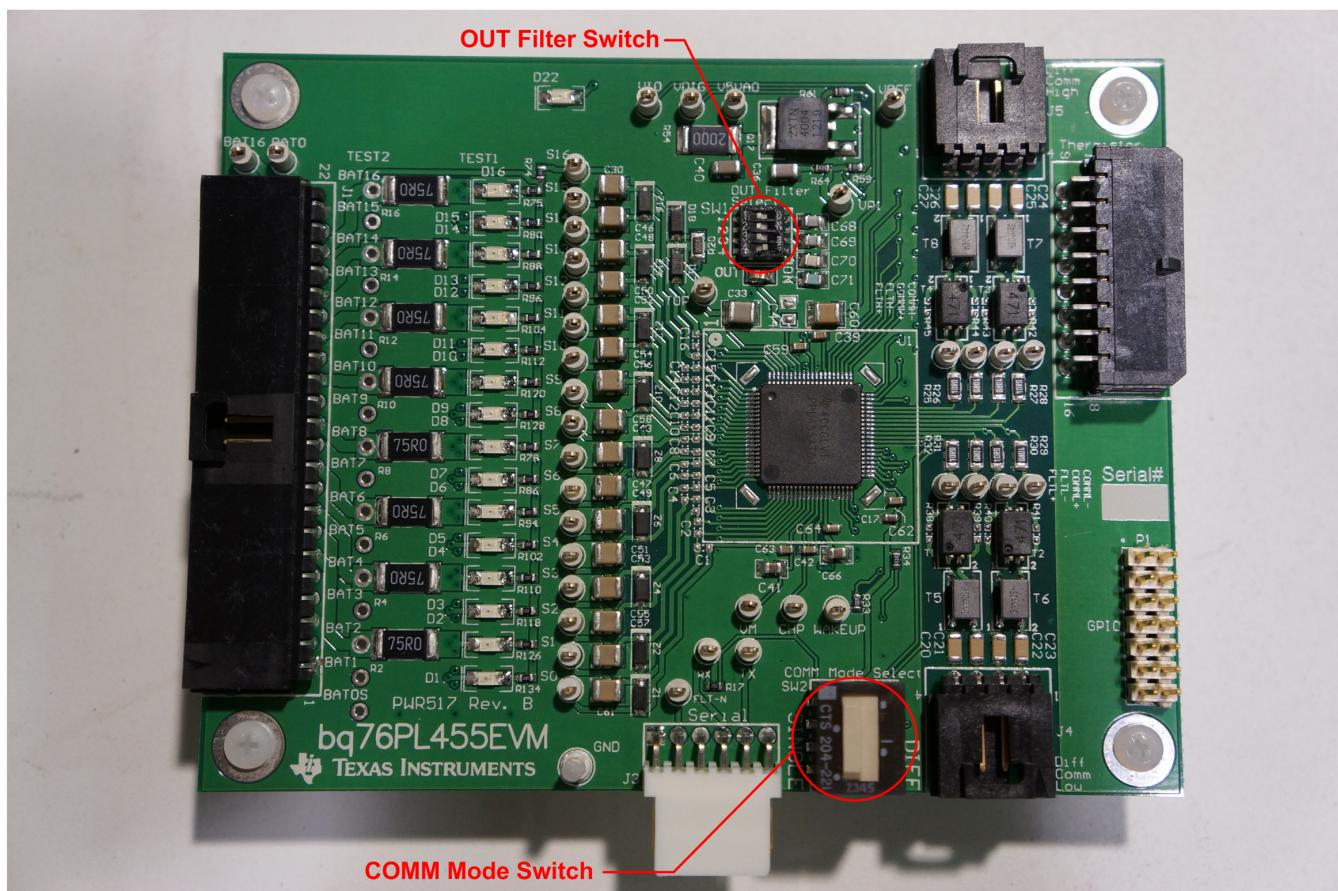

Figure 9. Single bq76PL455EVM Switch Configuration
Figure 9 shows an example of a single bq76PL455EVM configuration.
1. The configuration for a sample period setting of $60.04\ \mu s$ with $2.7\ nF$ by setting switch 1 on the OUT FILTER switch package to “ON” is shown in Figure 9.
2. On the bottom bq76PL455EVM that is connected to the PC, set the *SW2 - COMM Mode Select* switch as shown in Figure 9. On all other stacked bq76PL455EVMs, set the lever on the *SW2 - COMM Mode Select* switch package in the opposite direction, toward the DIFF label
3. Set *SW1 - OUT Filter Select* switches on all bq76PL455EVMs to the desired setting as outlined in Section 5.1.1 or as shown in Figure 9.